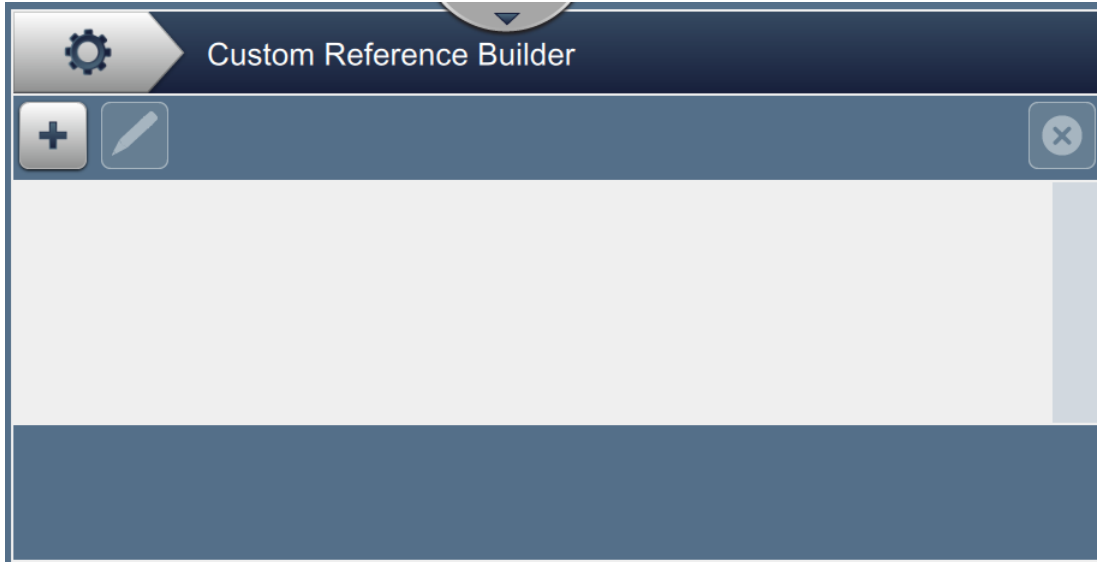

Figure 6-7: Custom Reference Builder
1. Touch the  button from the Tools screen. The Custom Reference Builder screen opens as shown in the Figure 6-7.
2. Touch the  button as shown in Figure 6-7 on page 6-12 to create a new custom field. The Reference Name screen opens.